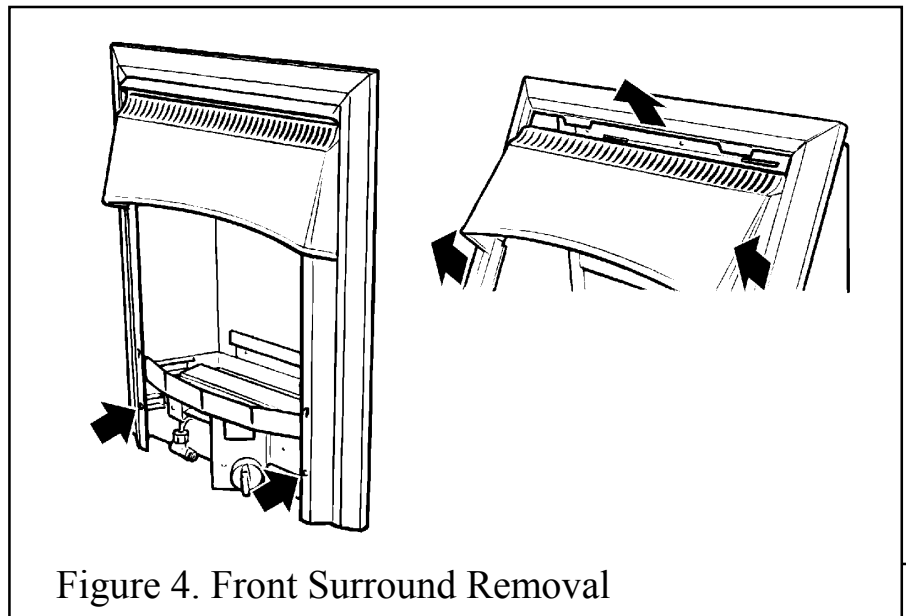

Figure 4. Front Surround Removal
1. Remove the two screws securing the bottom of the front surround to the sides of the convection box. See figure 4.
2. Raise the front surround to allow the retaining lugs at the top to clear the slots in the convection box hood and then lift clear. See figure 4.